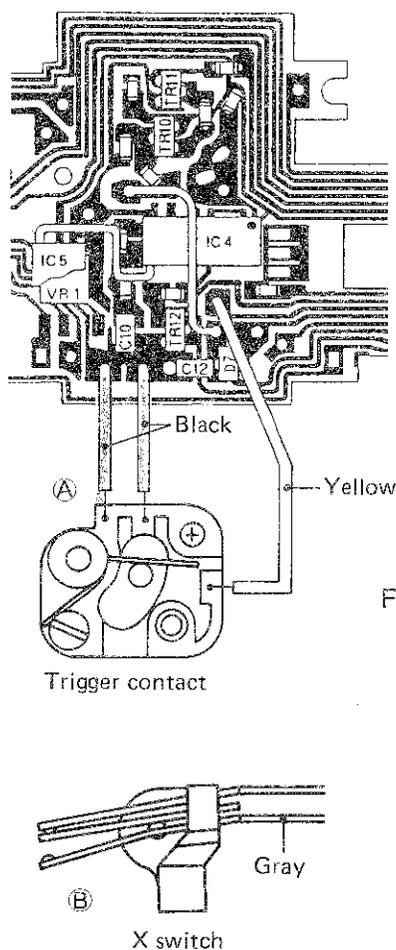

Fig. 42
3. (A) Unsolder two black and yellow lead wires from FPC plate (Fig. 42)